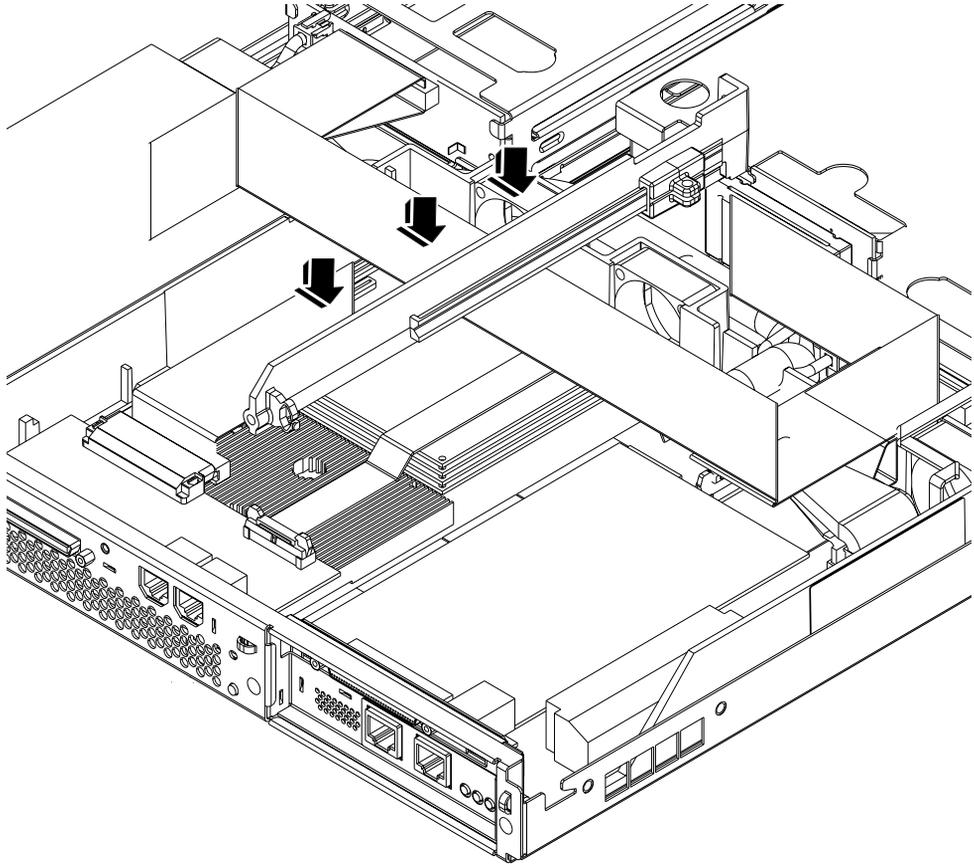

FIGURE B-6 Replacing the Mid Baffle
2. Replace the mid baffle with the slide retainer attached (see FIGURE B-6).